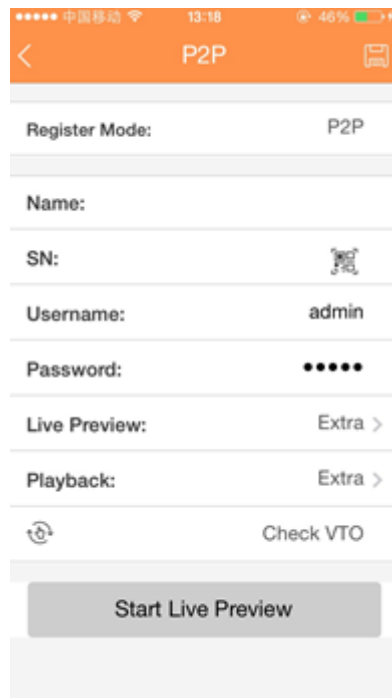

Figure 4-18
Step 4 Tap Device manager button, you can use several modes (P2P/DDNS/IP and etc.) to add the device. Click  to save current setup. Tap Start Live preview to view all-channel video from the connected device. See Figure 4-18.